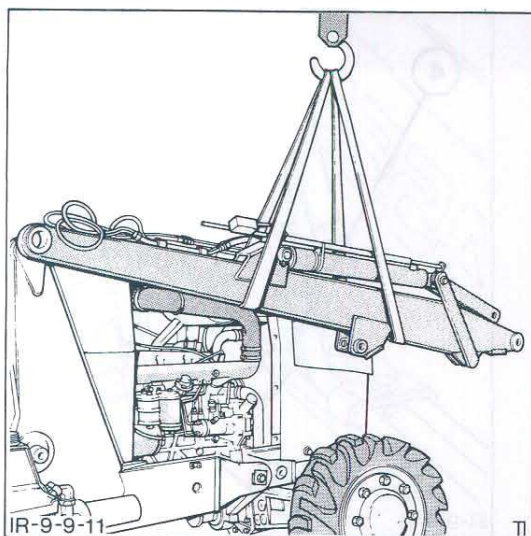

Figure 11
11. Using a suitable hoist support the loader arms. Refer to Figure 11.